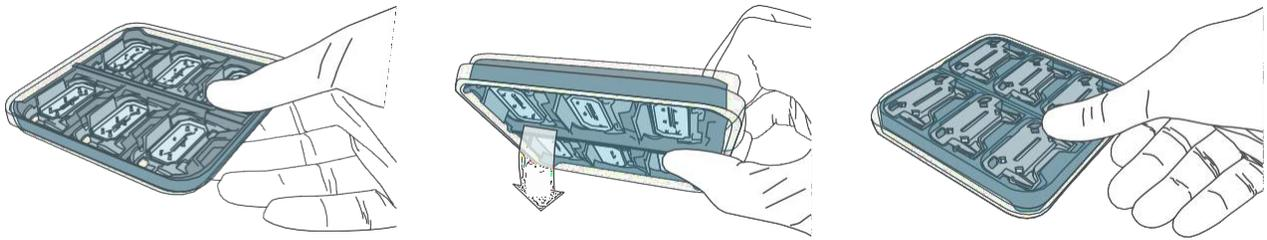

Figure 7: Inverting chips during endothelial attachment
8. After confirming the correct cell density, seed cells in the remaining chips, invert each chip, and rest the edge of the chip carrier on the chip cradle. Note: Each chip cradle can support up to 6 chips inside a square cell culture dish. (See Figure 7.)
The seeding density depends on the size and density of organoids cultured on the 24 well plate. Use of 2 to 3 wells of organoids per chip has been recommended (See Figure 7.)
Dilute the organoids with warm Organoid Growth Medium to the required final cell density (See Figure 7.)